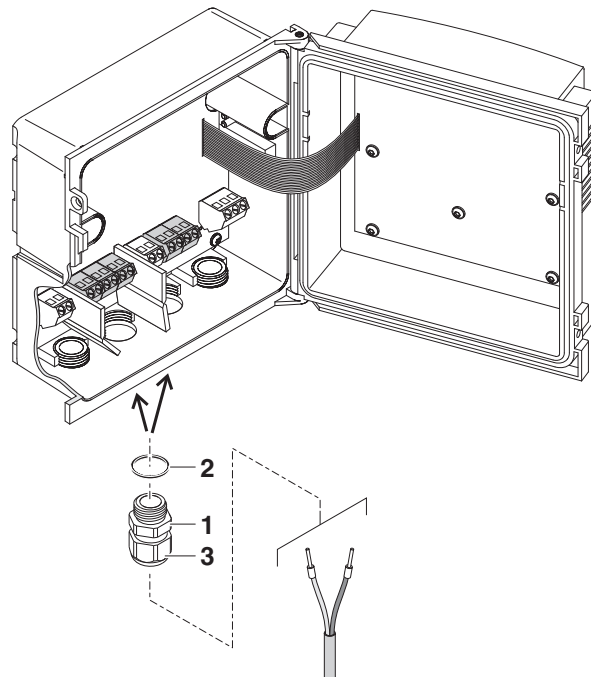

Fig. 3-17 Inserting the lines
2	Screw a cable gland (pos. 1 in Fig. 3-17) with the sealing ring (pos. 2) into the enclosure below the respective connections.